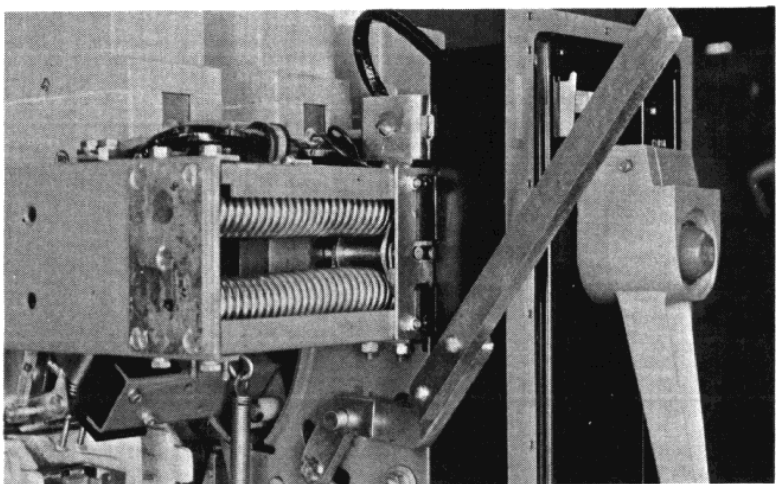

Figure 5
5. Insert maintenance closing handle #1151-9252 as in Figure 5 and slowly operate until arcing contacts touch. All arcing contacts should make simultaneously with a permissible variation of $\frac{1}{32}$ max. Moveable arcing contact fingers should align with stationary arcing contacts. If misalignment or misadjustments are observed, refer to Part 4 — MAINTENANCE FOR ADJUSTING INSTRUCTIONS. Moveable arcing contacts are designed with side clearances for better guidance inside the arc chutes. A side to side movement of $\frac{1}{8}$ is allowable. Close breaker and check overtravel on main contacts.